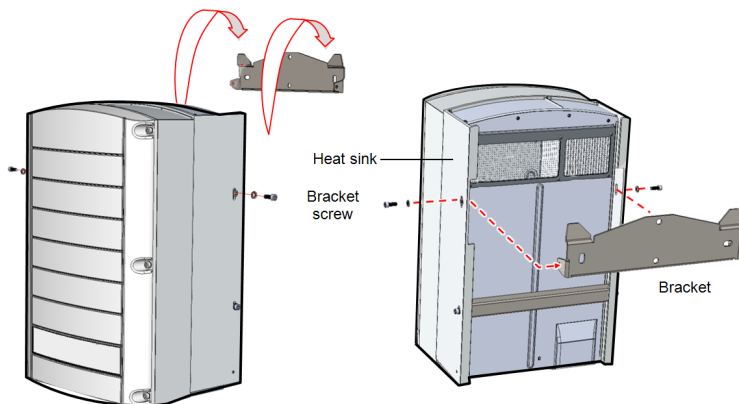

Figure 14: Hanging the Synergy Unit
- For the right or left Synergy Units, insert only one screw through the outer (exposed) side of the unit and into the bracket. Tighten the screws with a torque of 4.0 N*m (see *Figure 14*).